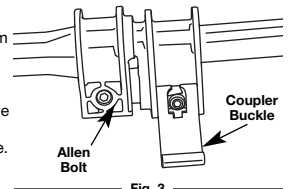

Fig. 3
3. Slide the top of the lower boom shaft into the bottom of the upper boom shaft and push together until the coupler is snug against the upper boom. (Fig. 3).
4. Using a 4mm Allen Wrench tighten the upper Allen bolt until the coupler is secure and will not move on the upper boom. (Fig. 3).